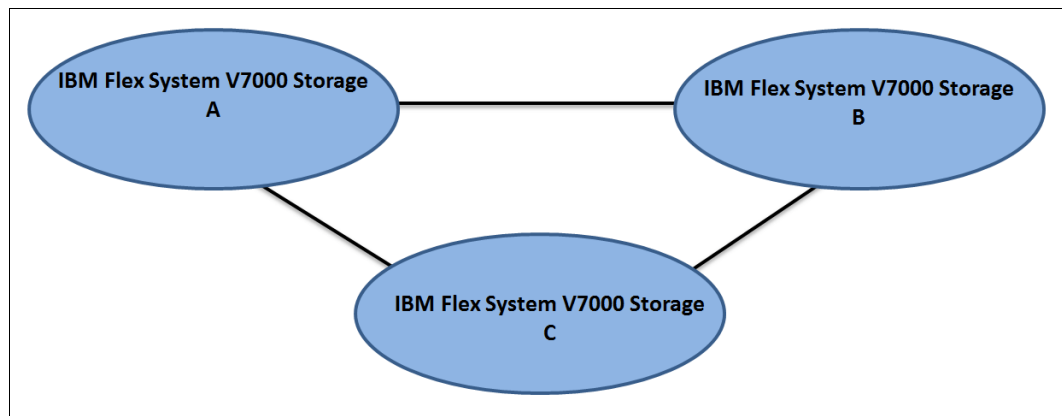

Figure 9-57 Triangle topology for IBM Flex System V7000 Storage Node
- ▶ Triangle topology (Figure 9-57):